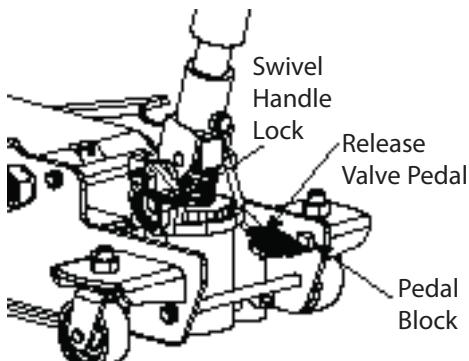

Figure 2 - Release Valve Pedal
3. To familiarize yourself with basic operation, insert and secure the provided handle into the handle fork. The release valve on this model is always 'CLOSED', so you may simply pump the operating handle to raise the load. To lower the load, simply locate and press down on the release valve pedal. The release valve on this model 791-6430 is always spring-biased in the "ON" position and may require special skills and training to operate with proficiency. Extraordinary care should be exercised when lowering a load. Fig. 2 shows the open release valve position used to lower the load.